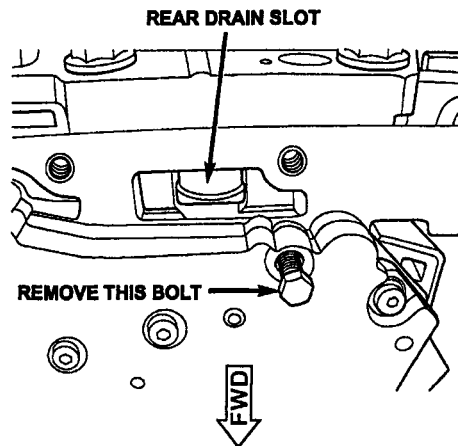

Figure 7
1. Remove the valve body attachment bolt as shown in Figure 7 (if not previously done).